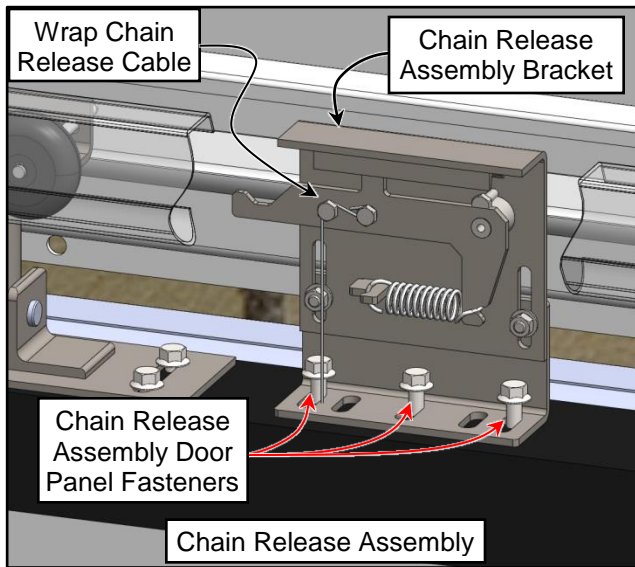

Figure 45
4. After the door panel(s) has been properly aligned, leveled, elevated, and secured to the head assembly via the swivel hangers, the drive chain properly tightened, and the bulb seal compression properly set, the chain release mechanism assembly can be aligned with the drive chain between the idler sprockets and the drive. Loosen the fasteners securing the chain glide bracket and the manual chain release cable in this assembly. Adjust the height of the bracket so the chain glide is at the same height as the chain and level (chain runs level and is not being lifted or pulled down by it). (See Figure 45)
5. Loosen the fasteners securing the Chain Release Assembly to the door panel. Align the release assembly bracket chain glide with the drive chain so the chain runs in a straight line between the drive and idler gear sprockets. Tighten the screws to 15 ft-lbs locking the Chain Release Assembly in place. (See Figure 45 and 46)